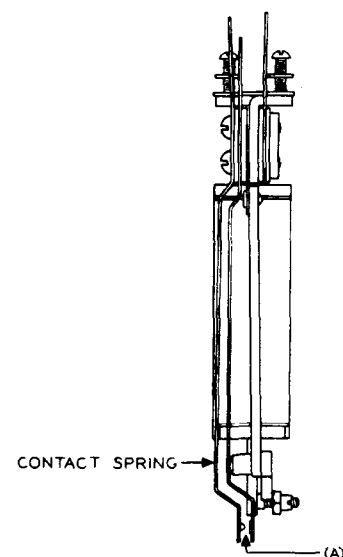

Fig. 11 - Contact Separation
2.16 Contact Separation: Fig. 11(A) - The separation between any pair of contacts normally open or between any pair of contacts that are opened when the relay is operated shall be